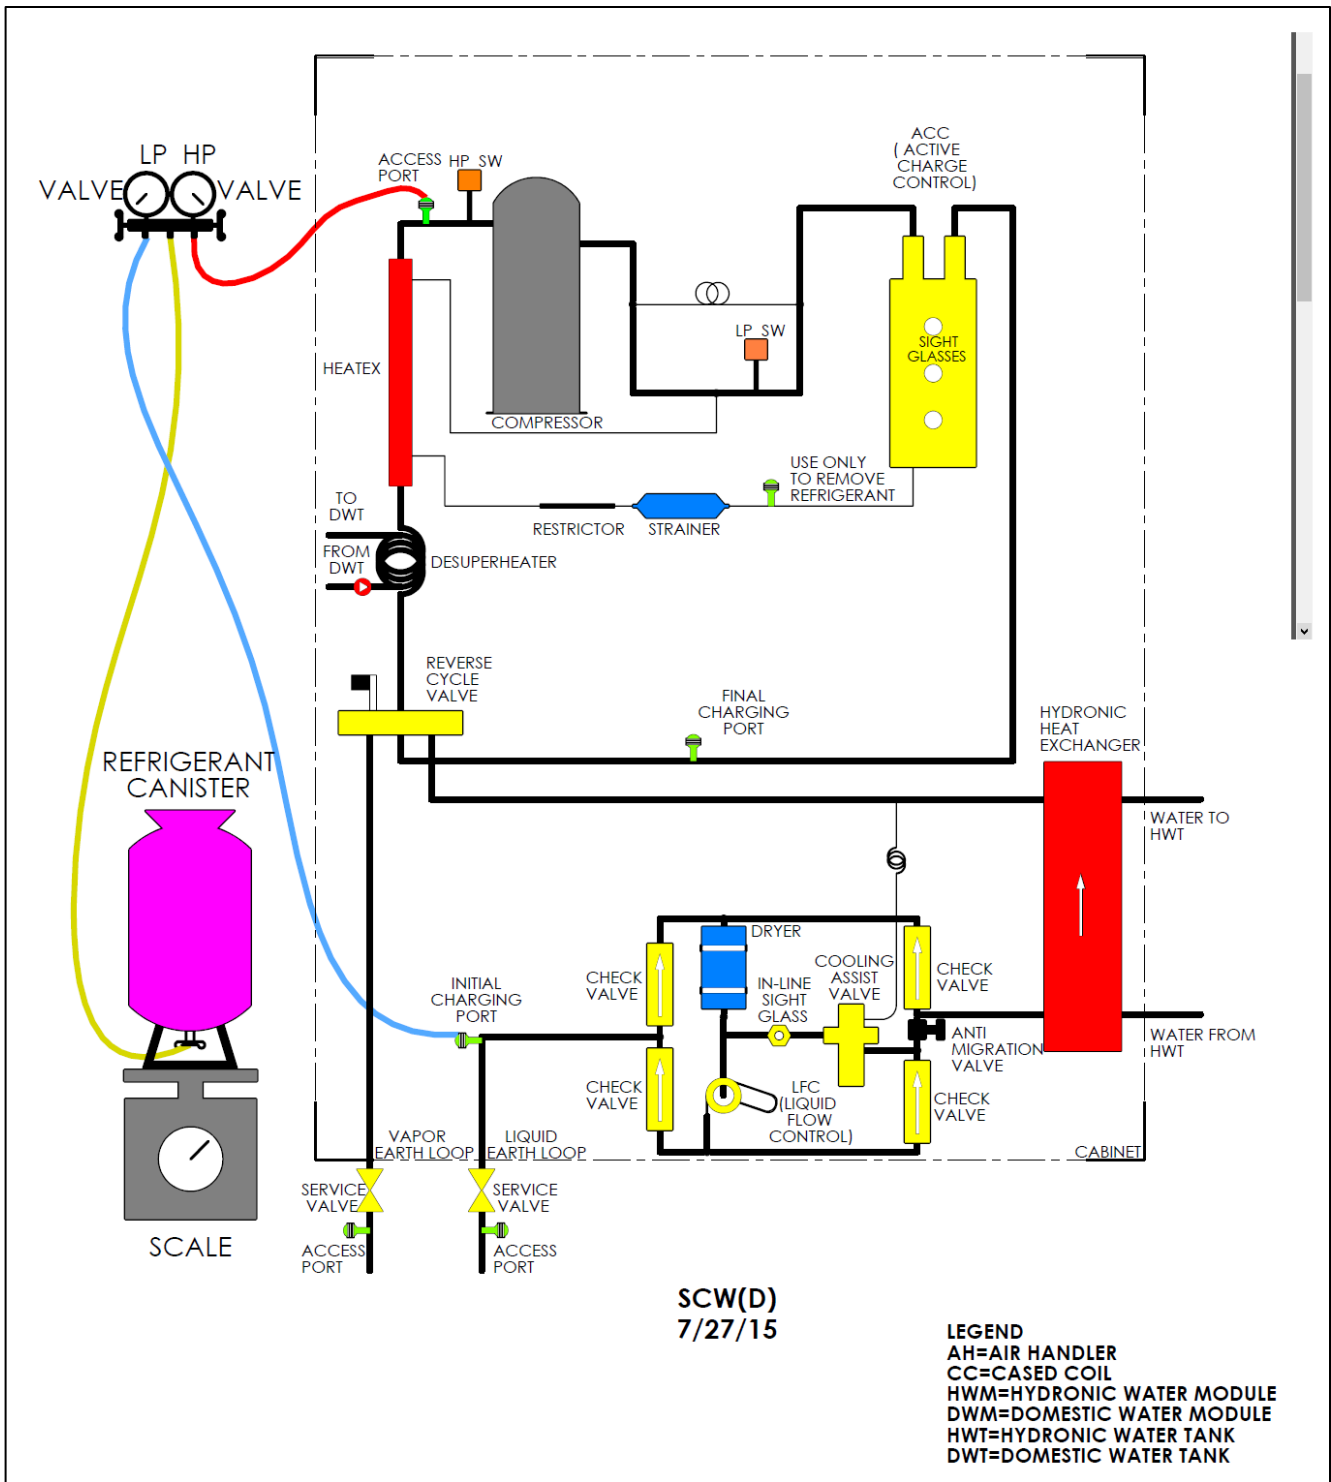

Figure 25. Initial Charge of SCW(D) System
1. Disconnect the vacuum pump and isolate the digital vacuum gage. Connect the refrigerant container to the charging hose of the manifold gage set as shown in Figure 25.
2. Place the refrigerant container upside down, with the refrigerant valve at the bottom, on the scale, as shown in Figure 25. Purge the charging hose by loosening it at the manifold end, until refrigerant is released. Tighten the charging hose and zero out the refrigerant scale.